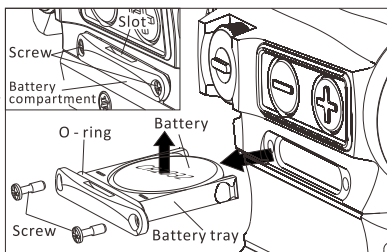

Fig3-1
1) Remove the battery (Fig 3-1):